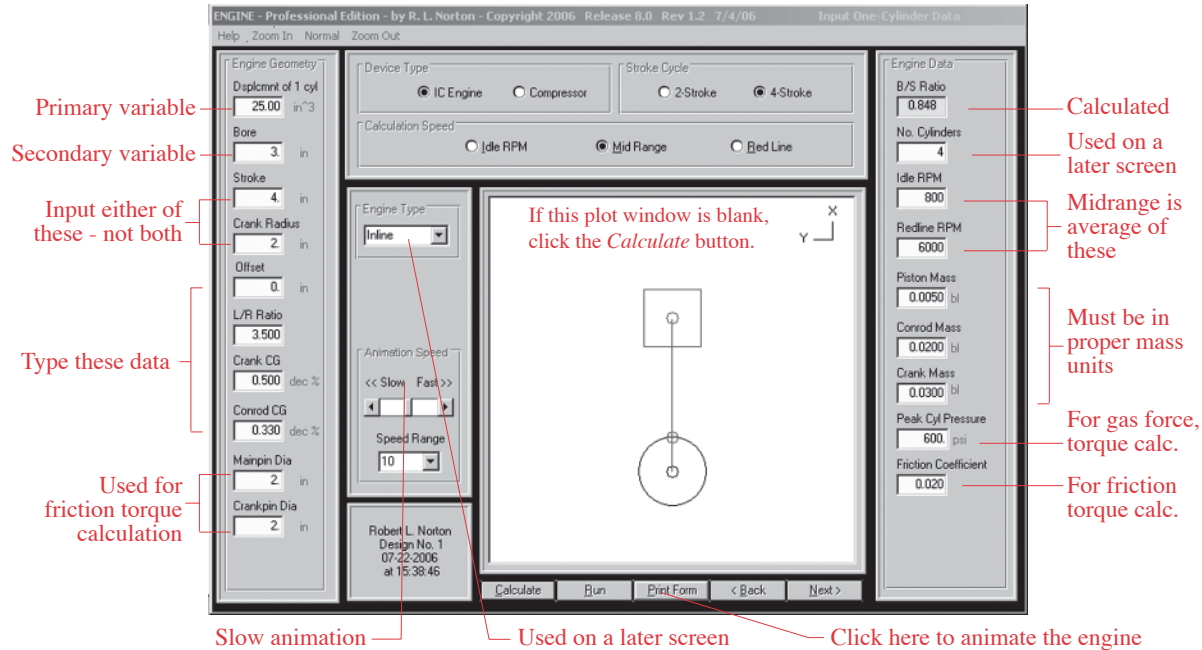

FIGURE A-20
**THE INPUT BUTTON** on the *Home* screen brings up the *Input One-Cylinder Data* screen shown in Figure A-20 (p. 802). Default data are present in all entry boxes. De-